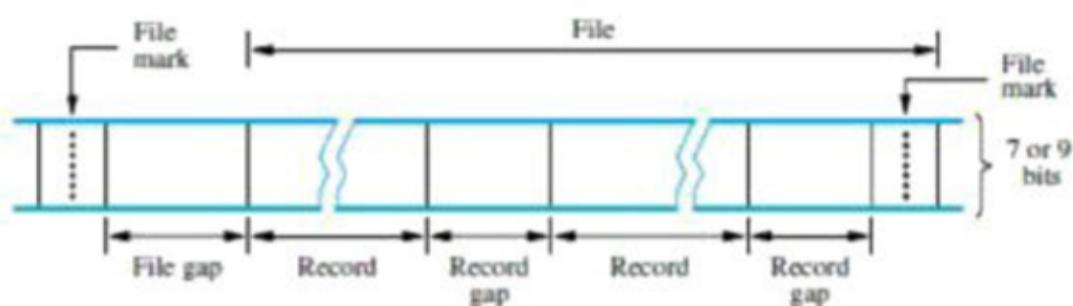

Figure 8.30 Organization of data on magnetic tape.
- Data on the tape are organized in the form of *records* separated by gaps, as shown in Figure 8.30.
- The large amounts of data, a group of related records is called a **file**. The beginning of a file is identified by a **file mark**, as shown in Figure 8.30.